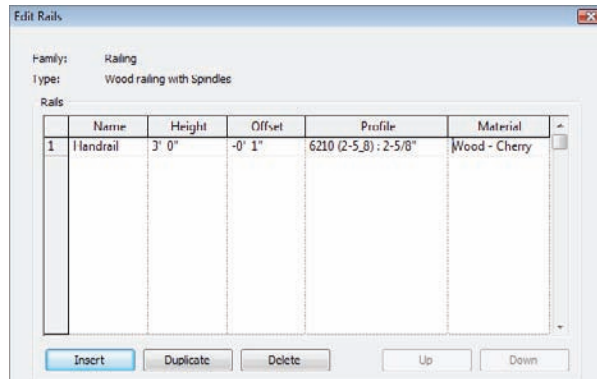

FIGURE 10.59 Changing the rail. Note that you can add as many rails as you wish. In this case, you are adding only one.
8. In the Rails chart, change Name to Handrail, as shown in Figure 10.59.
10. Change Material to Wood - Cherry by clicking the [...] button and browsing for the material (see Figure 10.59).